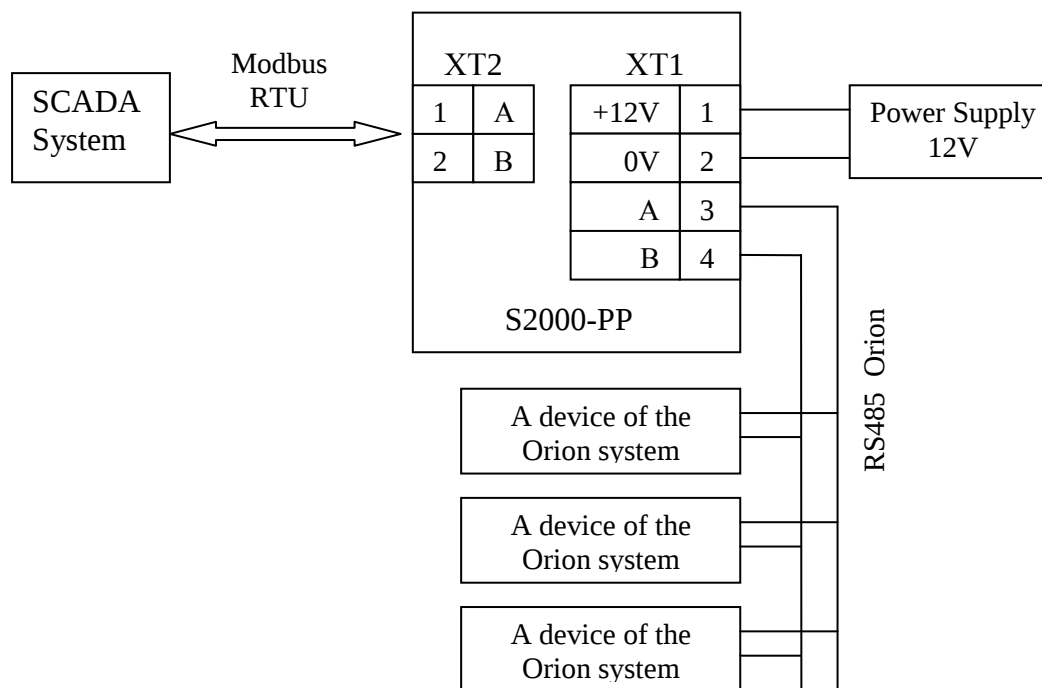

Figure 10. Connecting the S2000-PP in the Orion Master Mode
6.1. Figure 10 shows the schematic for connecting the S2000-PP in the Орион Master mode to integrate a fire & intrusion alarm system from the Bolid Company (Orion system devices) into a SCADA system of the user.